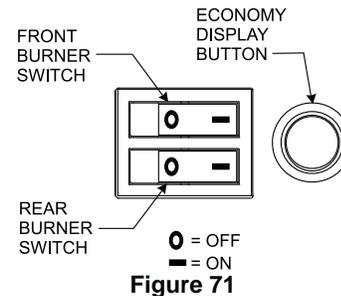

**Figure 70**
- B. Turn on the main electrical power to the fireplace and turn the main burner switch to the ON position. See Figure 70. Verify power is on by checking if there is power to the circuit board. If the unit has power, the power light will be illuminated.